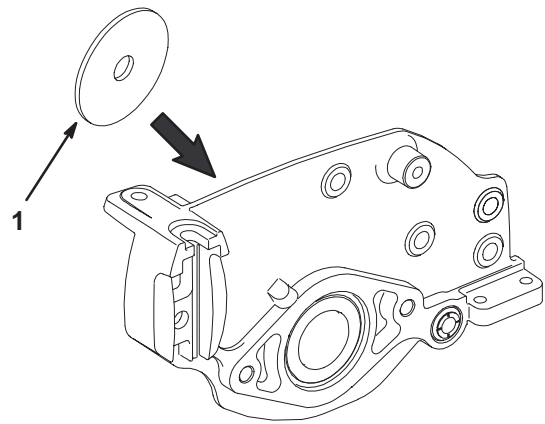

Figure 6
9. Using the installation washer (Fig. 6) included with the kit, press the inner seal into the side plate until the washer is flush with the outer edge of the side plate bore. Remove the washer. When properly installed, the seal should be positioned .104 inch below the edge of the side plate bore.